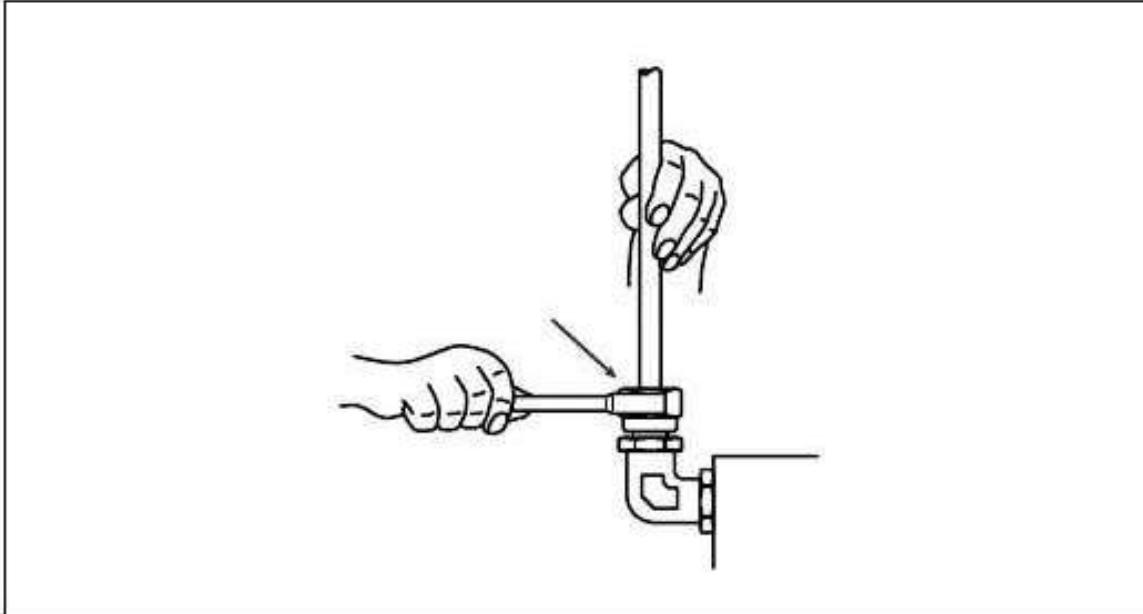

**Figure 8.19** A mark on the nut simplifies the specified torque
4. The ring will now have gripped the pipe, and no longer needs to be pressed against the shoulder. Complete the fitting with an additional  $\frac{3}{4}$  turn of the nut. A mark on the nut simplifies following the specified torque, see figure 8.19.